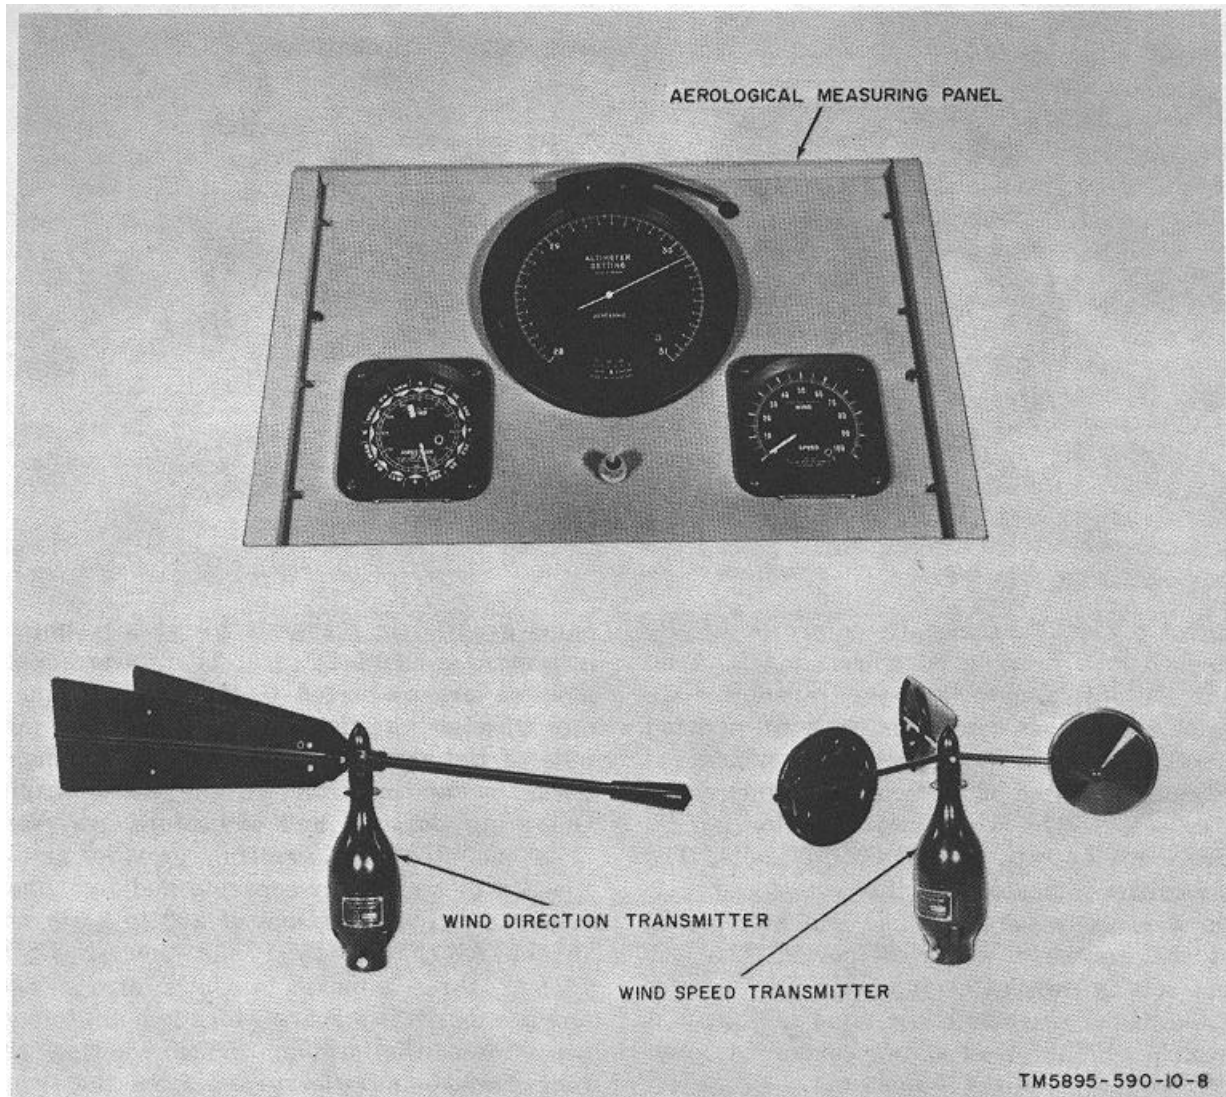

Figure 1-13. Aerological Measuring Set ML-629/FSQ-75(V)
(10) *Aerological Measuring Set ML-629/ FSQ-75(V)* (fig. 1-13). The aerological equipment consists of wind measuring equipment and an altitude setting barometer. A windspeed transmitter and a wind direction transmitter are pole-mounted exterior to the